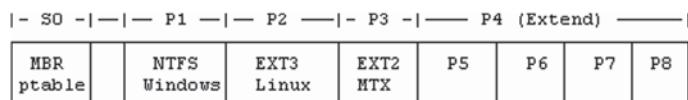

Fig. 3.5 Hard disk partitions
(1). Hard Disk Partitions: A hard disk is usually divided into several partitions. Each partition can be formatted as a unique file system and contain a different operating system. The partitions are defined by a partition table in the first (MBR) sector of the disk. In the MBR the partition table begins at the byte offset 0x1BE (446). It has four 16-byte entries for four primary partitions. If needed, one of the partitions can be EXTEND type. The disk space of an EXTEND partition can be further divided into more partitions. Each partition is assigned a unique number for identification. Details of the partition table will be shown later. For the time being, it suffices to say that from the partition table, we can find the start sector and size of each partition. Similar to the MBR, the first sector of each partition is also a (local) MBR, which may contain a booter for booting an OS image in that partition. Figure 3.5 shows the layout of a hard disk with partitions.